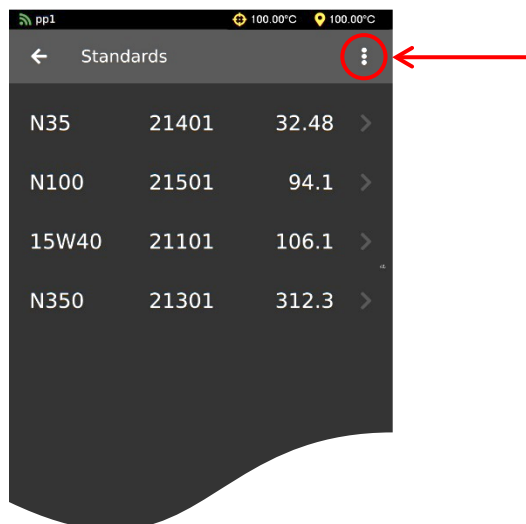

Figure 23: UltraVIS Menu/Settings/Standards
3. From the Standards Screen, use a single touch on the three dots, on the upper right-hand side of screen, to access the Standards Menu. See Figure 23.